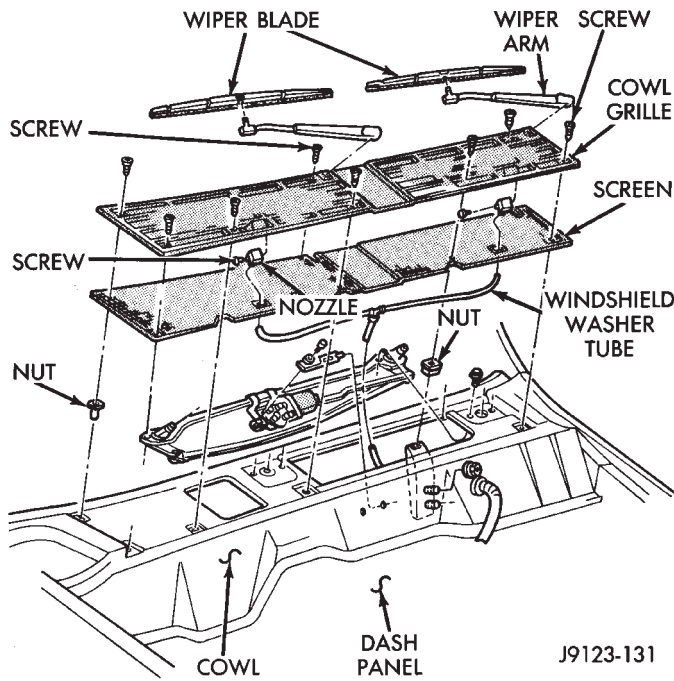

Fig. 26 Cowl Grille Components
(2) Remove the windshield wiper arms from the pivots (Fig. 26).